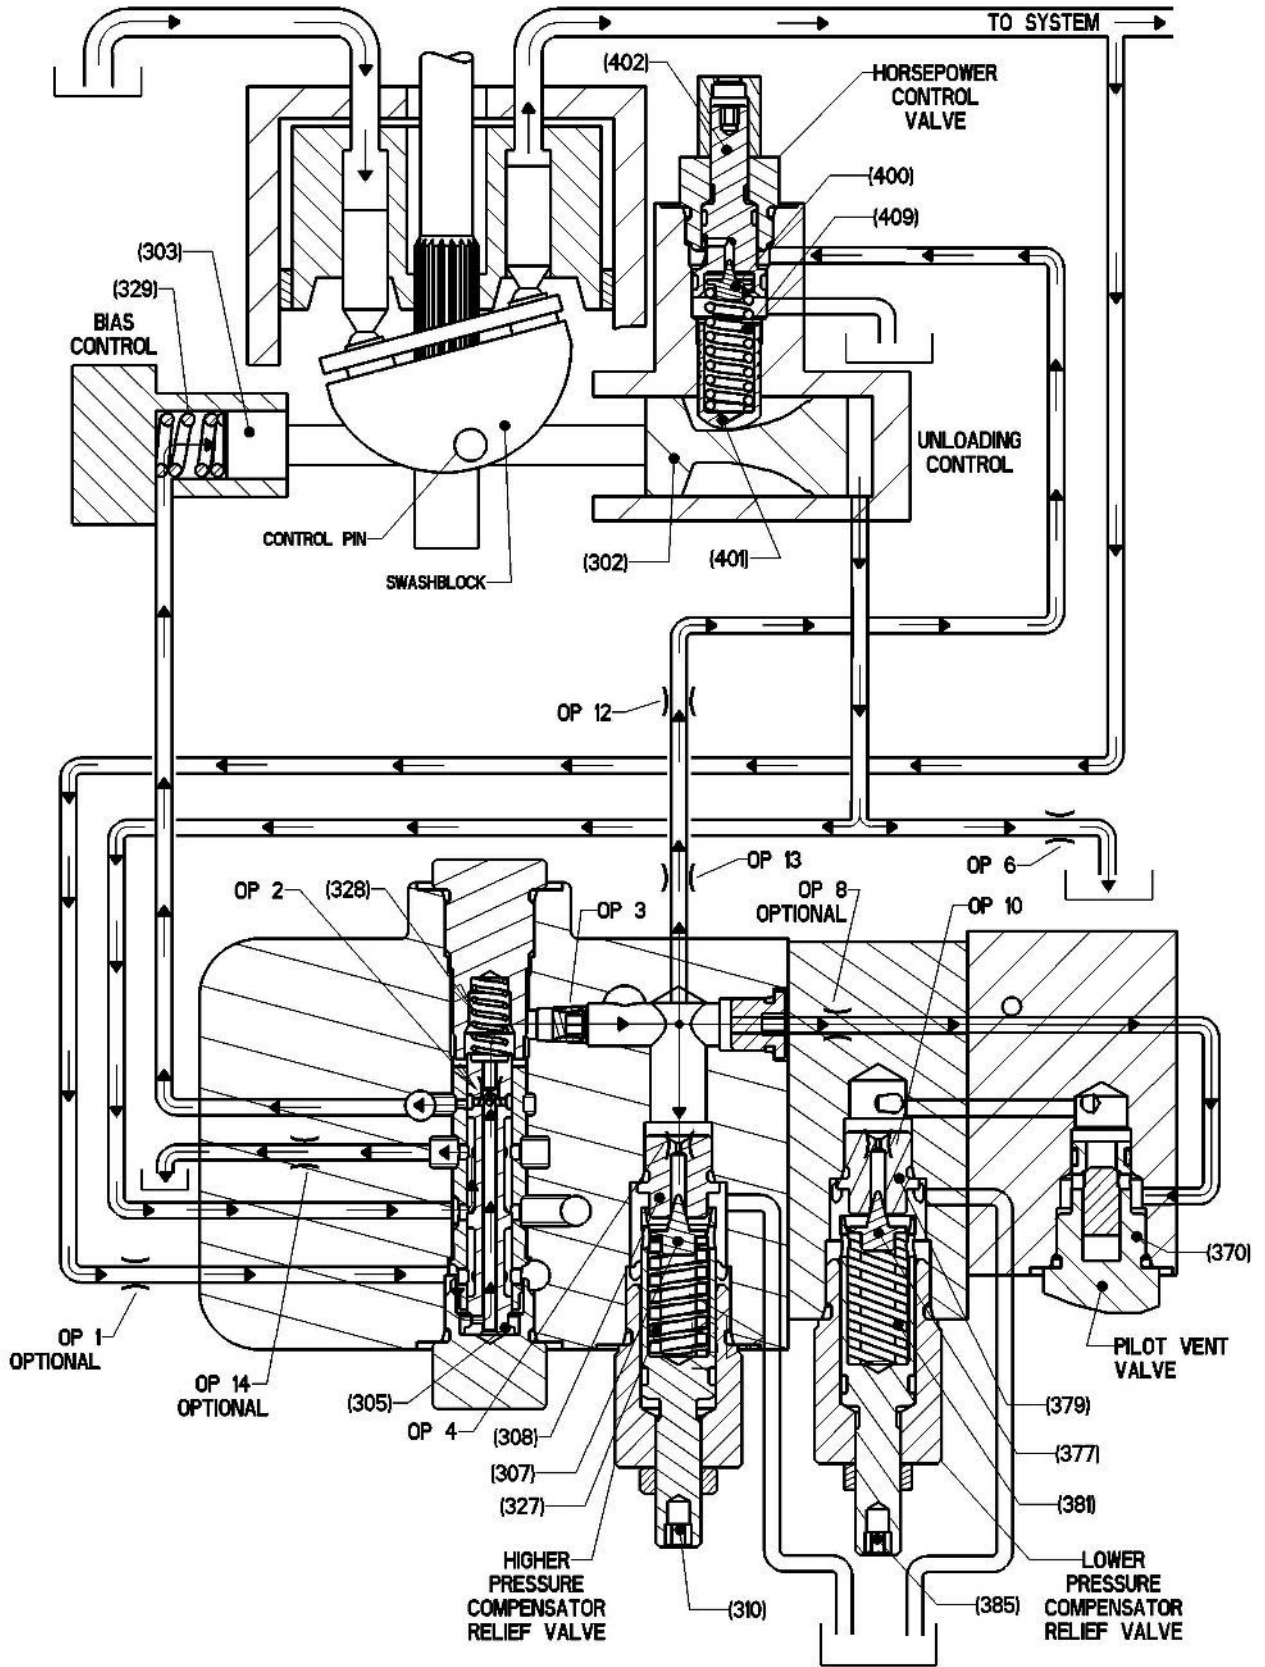

Figure 4. Raising Pressure (Loading)
If the system pressure drops below preset compensating pressure, the relief valve poppet (377) seats and forces on the pressure compensating spool (305) are balanced, the pilot control valve spring (328) returns the spool to the original position (Figure 4), swashblock position shifts, and the pump increases delivery until the relief valve screw (385) preset pressure is reached again.
If the system pressure drops below preset compensating pressure, the relief valve poppet **(307)** seats and forces on the pressure compensating spool **(305)** are balanced, the pilot control valve spring **(328)** returns the spool to the original position **(Figure 4)**, swashblock position shifts, and the pump increases delivery until the relief valve screw **(310)** preset pressure is reached again.